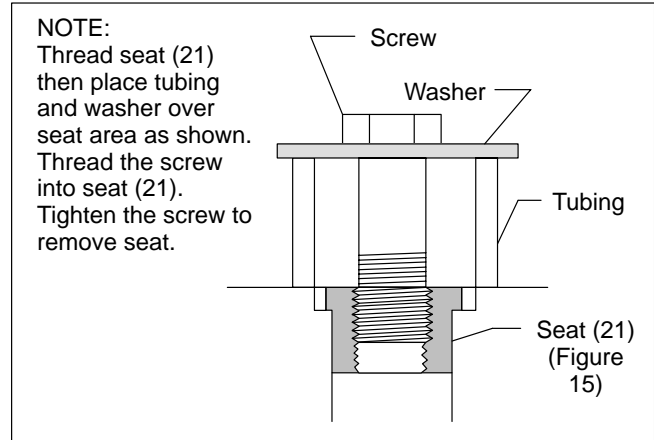

Figure 16. Check Valve Seat Removal
Also obtain a flat washer. Remove seat (21), Figure 15, per instructions noted in Figure 16. Remove poppet (22) and spring (23). DO NOT remove sleeve (24).